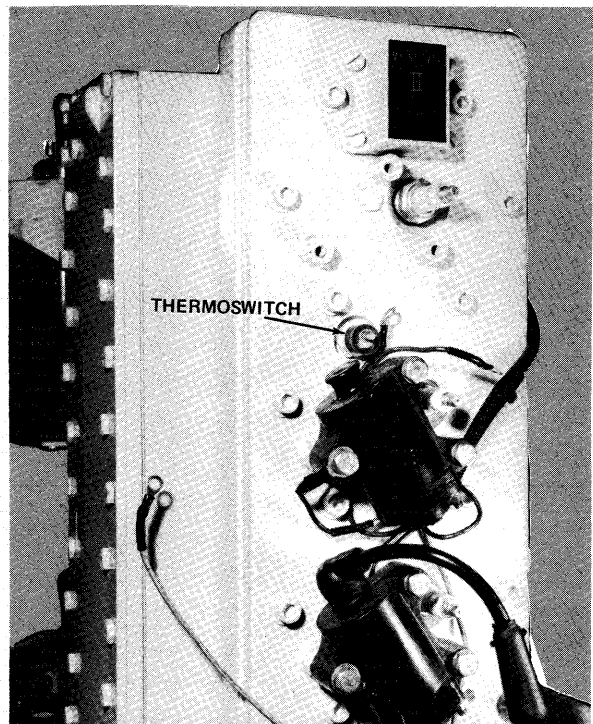

Figure 11 - Removing Thermoswitch
- C. Remove thermoswitch from cylinder head cover as shown in figure 11.